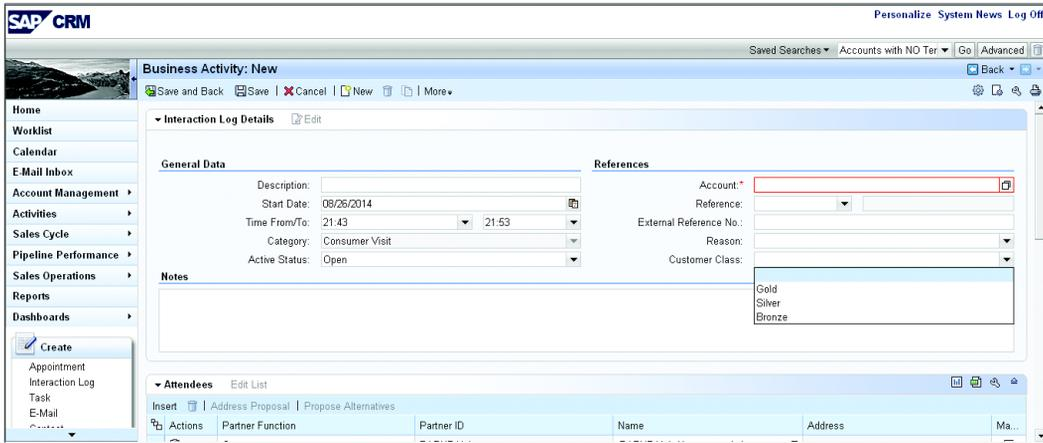

Figure 8.65 Business Activity – Custom Field Customer Class Created
- Go back to the BUSINESS ACTIVITY: NEW screen to see the CUSTOMER CLASS field now available with the GOLD, SILVER, and BRONZE dropdown, as shown in Figure 8.65.